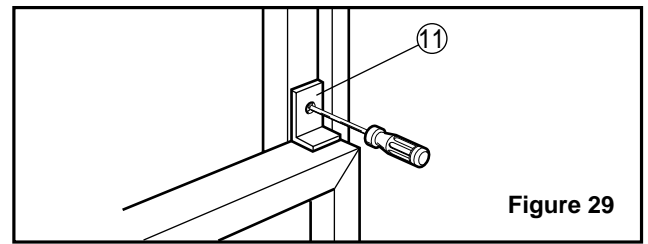

Figure 29
12. Attach the window locking bracket ⑪ with a type C screw. (See Fig. 29)